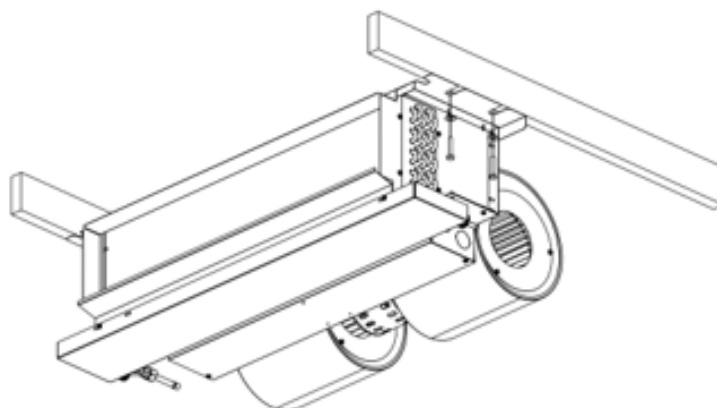
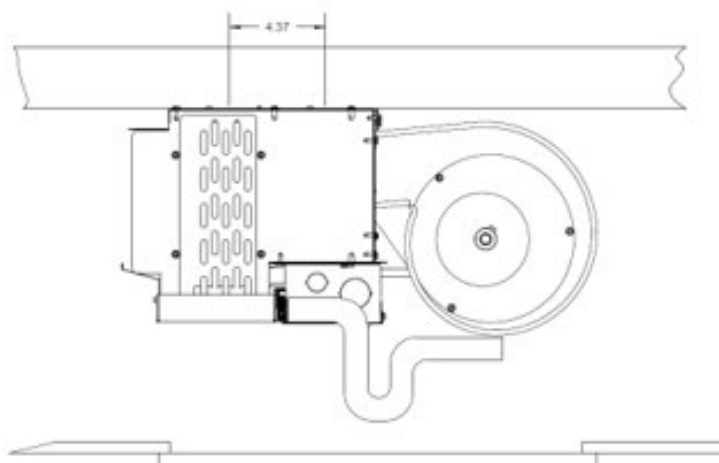

Figure 6 - Structure Support with Fasteners
Figure 7 - Structure Support Location
These units are equipped with four (4) mounting slots to facilitate secure attachment. Installers must use metal washers and nuts of the proper size, ensuring all connections are tight and stable. If mounting to wooden joists, use a minimum of 0.25 in. x 2 in. wood screws fully engaged with fender washers to secure the unit to the structure. If the mounting surface is uneven, shims must be used to achieve proper leveling, ensuring effective condensate drainage. See **Figure 6 - Structure Support with Fasteners** and **Figure 7 - Structure Support Location**.